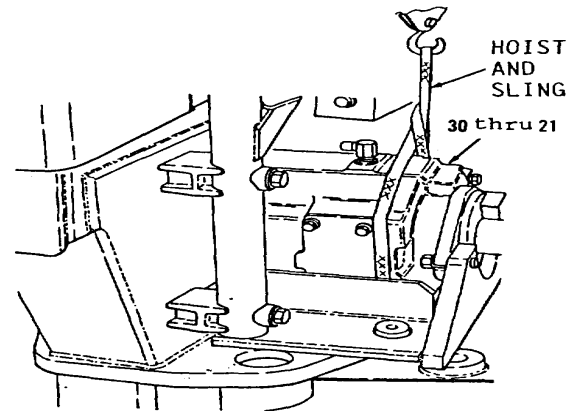

Figure 10-8.
10. Position items 30 thru 21 as an assembly (Figure 10-8). Slide onto mounting holes.